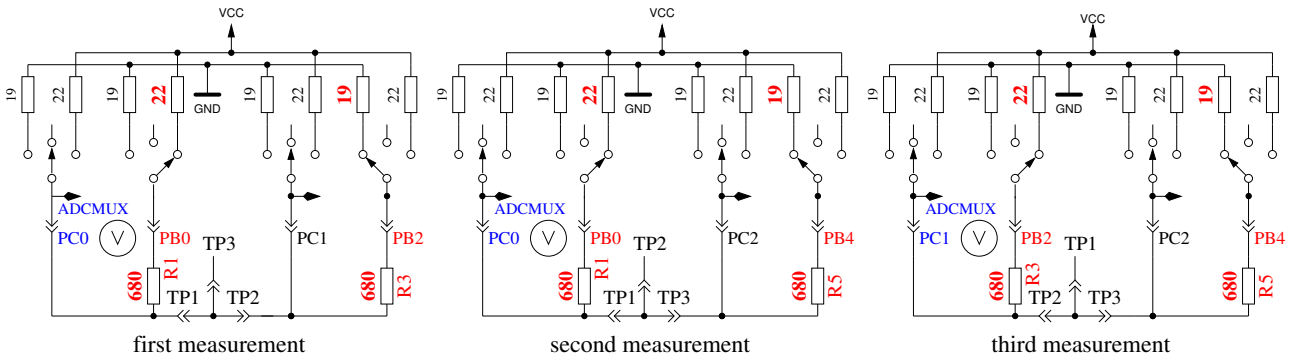

Figure 5.44: Comparison of 680Ω resistors
2. **Comparing of the 680Ω resistors.** In row 1 the cryptic text “+RL- 12 13 23” is shown. Meaning of this is as follows: The RL is the short form of Resistor Low meaning the 680Ω resistors. The 12 stand for: resistor at pin 1 is connected to VCC (+) and resistor at pin 2 is connected to GND (-). The result of this measurement is displayed in row 2 at the first place as difference to the theoretical value. In row 1 follows now a “13” which means, that the first connection of measurement 1 is still connected with 680Ω to VCC but that the resistor of pin 3 is connected to GND. The result is displayed in the middle place of row 2 as difference to the theoretical value. The last measurement of this test “23.” means that now the resistor at pin 2 is connected to VCC (+) and the resistor of pin 3 is connected to GND. The result of measurement is displayed at the last place of LCR row 2 as difference to the theoretical value. Please remember, that the resolution of the ADC is about 4.88mV! The measurement situation is also shown in figure 5.44. The theoretical value with respect to the internal resistance of the pins should be: $\frac{5001 \cdot (19+680)}{(19+680+680+22)} = 2493$.